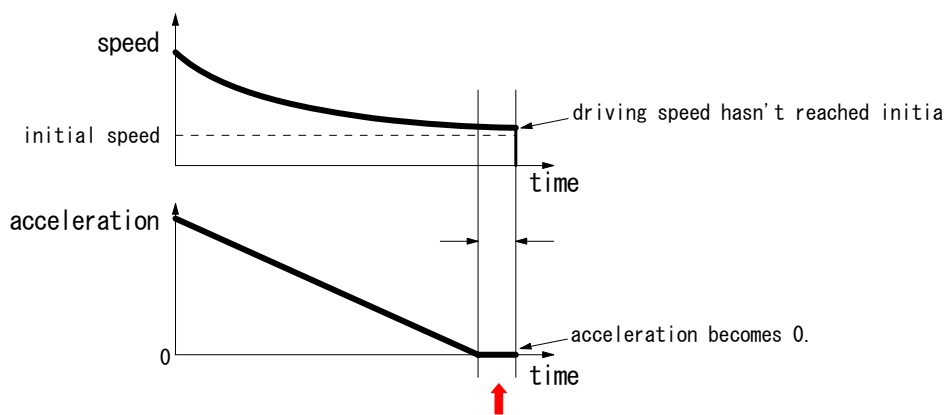

Figure 2. Driving speed and acceleration just before driving completion
- ① When decelerating stop command (26h) was given just before finishing driving
- ② When setting stop mode of hardware limit(nLMTP/M signal) as decelerating stop(WR2/D2=1), driving is started and hardware limit of progress direction becomes active just before finishing driving
- ③ When software limit is enabled(WR2/D0,1=1), driving is started and hardware limit of progress direction becomes active just before finishing driving
- ④ When nSTOP(2~0)signals are enabled(WR1/D5,3,1), fixed pulse driving is started and those signals become active just before finishing driving
Fixed pulse driving in S-curve acceleration/deceleration is performed as that driving speed and initial speed becomes equal and acceleration becomes zero(0) when driving finished, which means all pulse outputted. But it's impossible to make driving speed & initial speed equal and acceleration zero(0) in all combinations of parameters because of the problem of calculation accuracy. This trouble will happen if it is in the above mentioned occasion ①, ②, ③ or ④ as the factors of deceleration stop accidentally and driving speed hasn't reached initial speed yet but acceleration has become zero(0) showing on Figure 2.